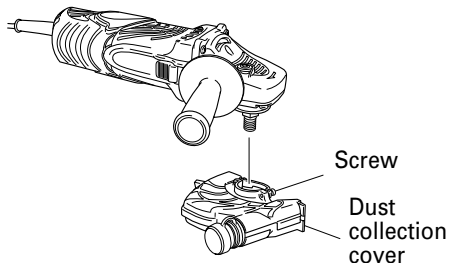

Fig. 2
6. Fitting and adjusting the dust collection cover (Fig. 2)